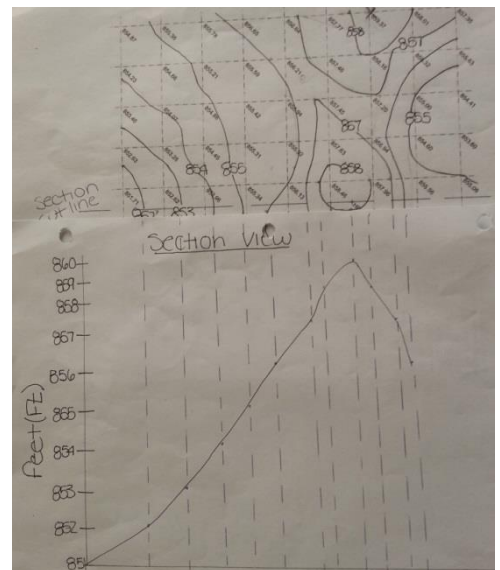

Figure 1.2: LARC160, University of Maryland, College Park
- Once all of the rings have been connected and all of the peaks have been labeled for the site, it is time to create a section cut graph for a better understanding of the site. A section cut of an object is a view of the object as if it is being sliced through with a knife. This allows for the viewer to get an understanding of the inside of one specific section of the inside of an object. The most effective place to slice through a surveyed site would typically be a landmark, a peak or a valleys bottom. In this case, the most effective place to slice through would be the hill peak(s). Use Figure 1.2 as a guide.
- d. Along the edge of the graph, draw a solid straight line and label it: elevation (Ft.). Draw a horizontal line about an inch from the bottom of the graph paper and ensure these two lines cross in the bottom left hand corner of the paper. Determine the lowest elevation through the cut line and make the next lowest integer the bottom number on the vertical line. At the top of this vertical line, write the next integer above the peak's elevation. In between these two numbers, create a dash for each foot. Make sure there is an equal distance between the numbers. (see Figure 1.2)